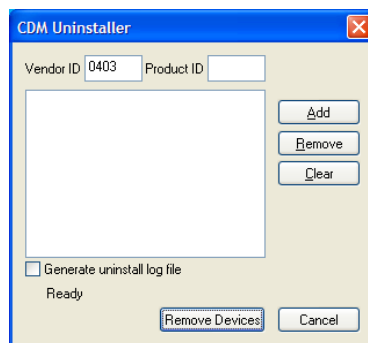

Figure 19 - Changing Product ID window
- e. Leave the Vendor ID as 0403 and delete the entry 6001 in the Product ID box to leave it blank as shown in Figure 19.